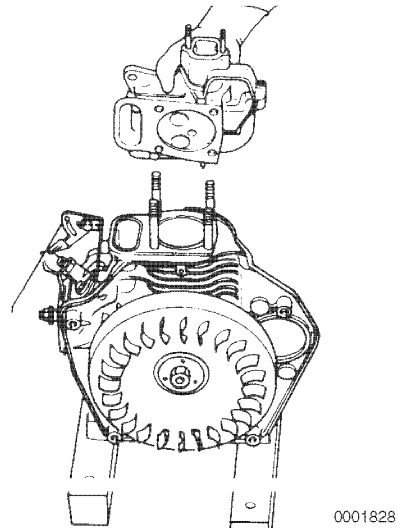

Figure 6-3
6. Remove the two cylinder head nuts and two bolts and remove the cylinder head **(Figure 6-3)**. Discard the cylinder head gasket. Place the cylinder head on a protected work surface to prevent damage to the combustion surface.